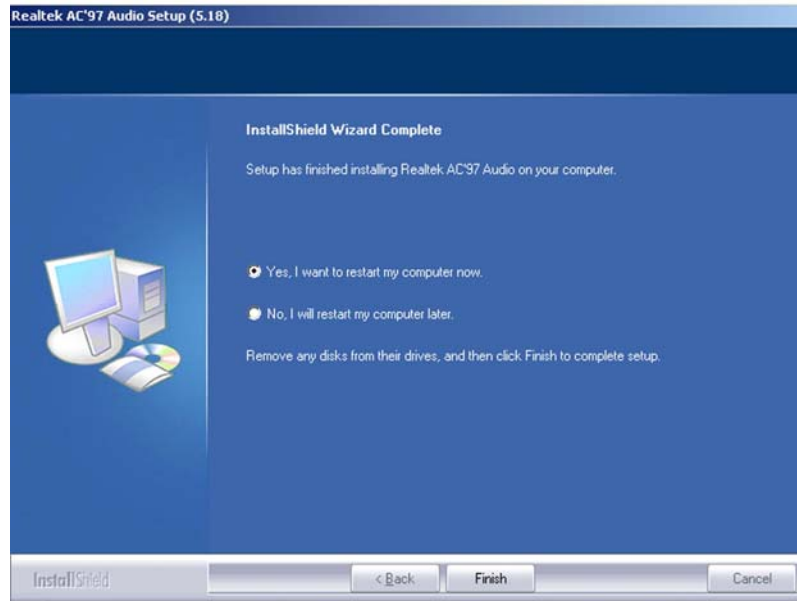

Figure 7-30: AC'97 Audio Driver Installation Complete
Step 9: After the driver installation process is complete, a confirmation screen shown in **Figure 7-30** appears.
Step 10: The confirmation screen shown in **Figure 7-30** allows you to restart the computer immediately after the installation is complete or to restart the computer later. For the settings to take effect the computer must be restarted. Once you have decided when to restart the computer, click the **"FINISH"** button.